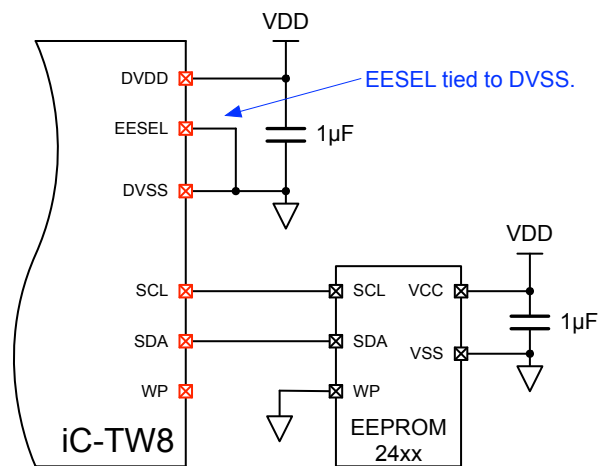

Figure 13: EEPROM Connection
The EEPROM connects directly to the iC-TW8 via a dedicated I2C communication channel using SCL (pin 27) and SDA (pin 28) as shown in Figure 13. No external pull-up resistors are required. EESSEL (pin 4) of the TW8 must also be connected to DVSS as shown.
In pin configuration mode, the Write Protect (WP) input of the EEPROM is not controlled by the iC-TW8. WP must be grounded (disabled) during configuration to allow the iC-TW8 to write the auto-adapted parameters to the EEPROM. In operation, WP can be left grounded (write protection disabled) as shown in Figure 13, or connected to DVDD by additional circuitry (such as a jumper) for parameter protection.